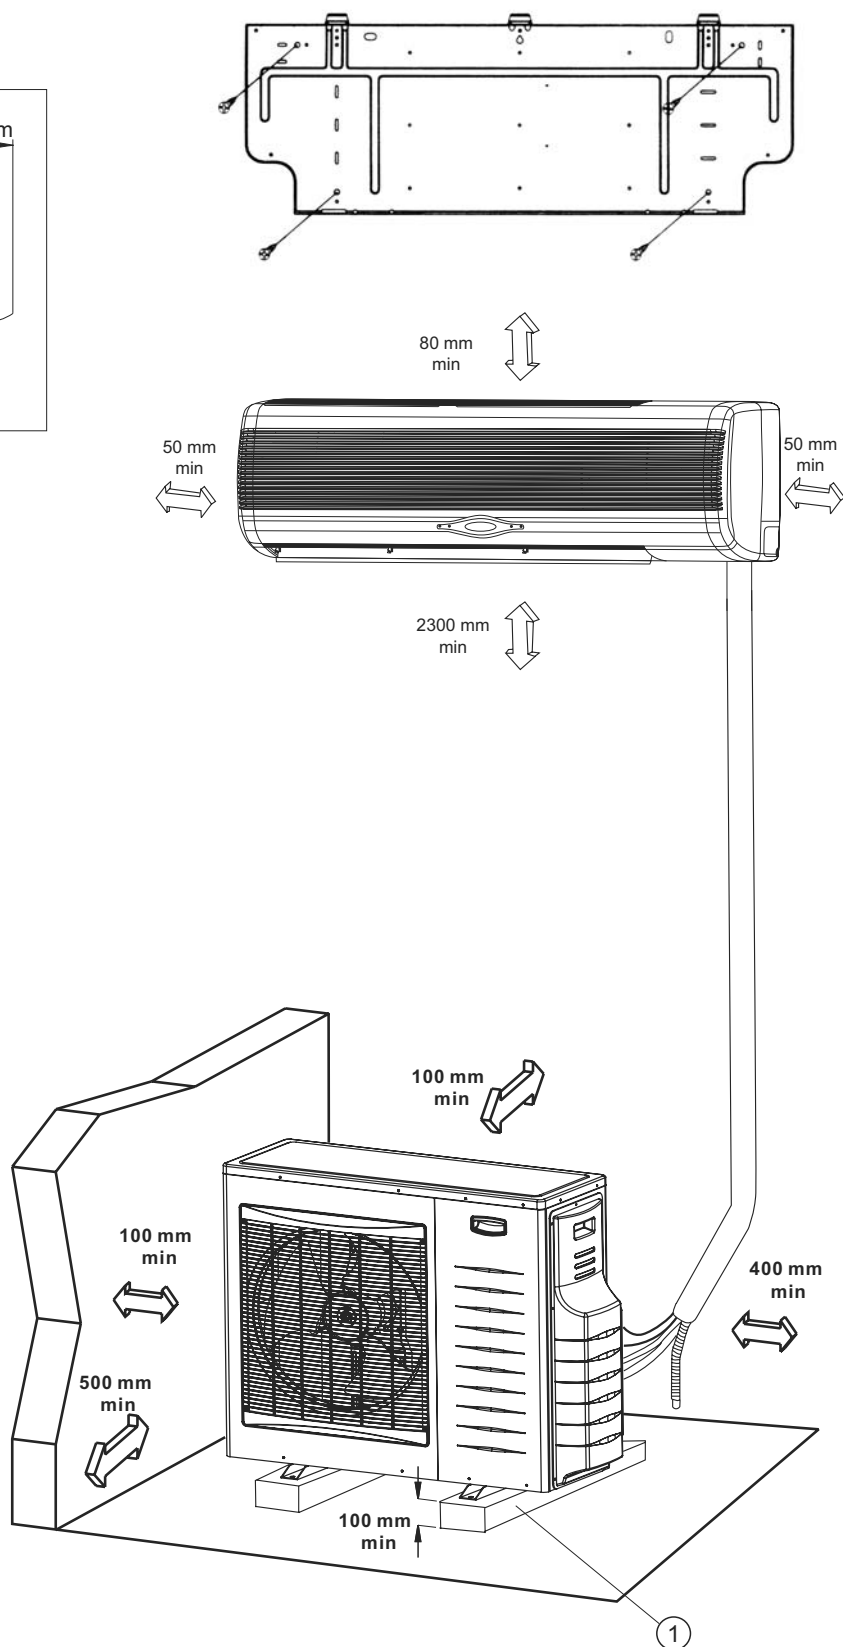

Fig.5
7. Install the mounting plate as shown in fig 5.
1. The location must allow easy servicing and provide good air circulation as shown in fig 5.
6. Refer to figure 5 for allowed installation distances.